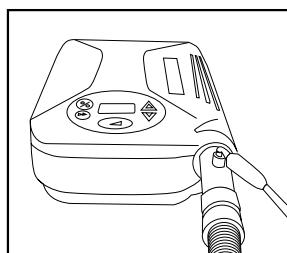

Figure 10
3. Oxygen may be injected into the air supply by connecting one end of standard oxygen tubing to the oxygen adapter and the other end to the oxygen source **Figure 10**.